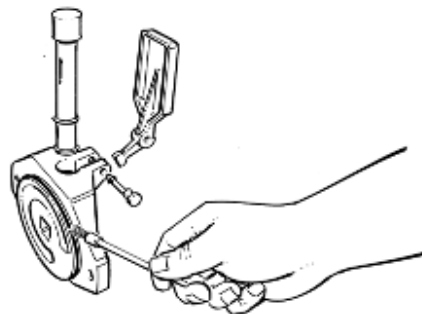

Fig. 60
- Carefully lubricate the sealing gasket of the front flange (Fig. 60).